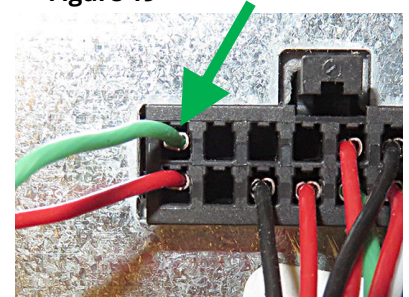

Figure 21
26. Insert the **GREEN** wire into the far left upper position (pin 16), above the red wire inserted in step 25. (see Figure 21).